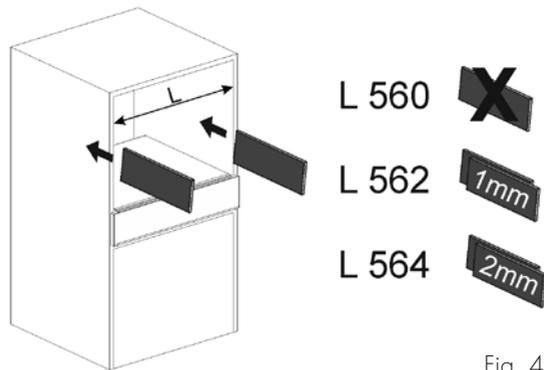

Fig. 4
- Insert all the drawers into remaining recesses, level them and align the lower trims with the lower trim of the 60 cm oven (Fig.4).
- The height of the front glass of the drawer can be regulated by adjusting the screws (Torx insert screws) inside the drawer (loosen the screws, adjust the height and retighten the screws). (Fig. 4)
If the **width of the recess is 562 mm** place the 1 mm shims provided behind the plates of the guides. (Fig. 4)
If the **width of the recess is 564 mm** place the 2 mm shims provided behind the plates of the guides. (Fig.4)